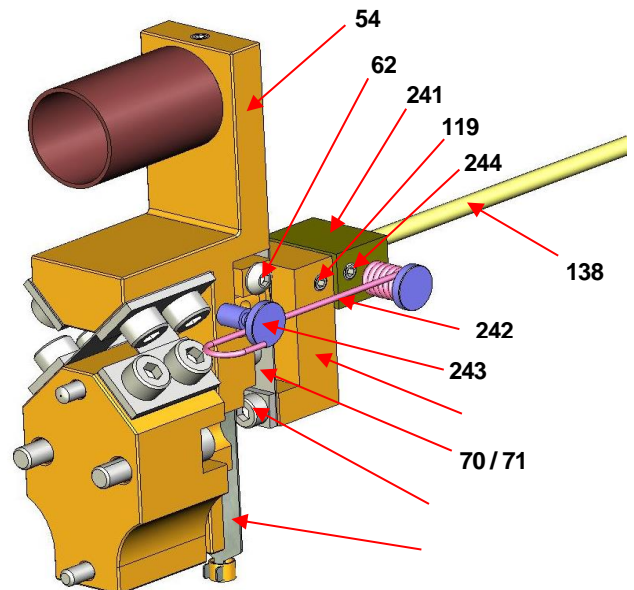

Figure 20
- e. Position the sub-assembly vertically on the rod so that the distance between the coupling flexure (71) and the torque tube flange is 59.5 mm \pm 0.5 (see figure 20). Firmly tighten this sub-assembly to the rod, using the two lateral screws (119).
- f. Put the bias at 1 mm from the coupling S/A, align the bias S/A with the coupling S/A and tighten it on the rod with the two lateral screws (244).
- g. Verify that the screw (62) on the beam (54) is loose.